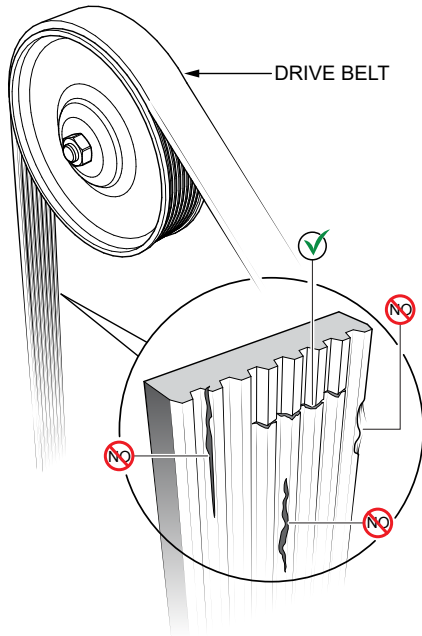

Figure 51. Drive Belt Inspection
1. Inspect the **drive belt** (Figure 51) for damage and wear. Horizontal cracks (across the belt) are acceptable. Vertical cracks (direction of belt ribs) that intersect with horizontal cracks are not acceptable.